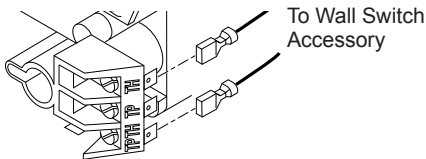

Figure 33 - Connecting Wall Switch to Control Valve
1. Connect one terminal of 25 ft. wire for the wall switch to the TPTH terminal on the valve. Connect remaining wire terminal to the TH terminal on the valve. Make sure that the wire terminals are in the positions on the unit as pictured in Figure 33. If wires are not connected as shown the switch will not work.
4. Connect wires from receiver to TH and TPTH to control valve (see Figure 33).